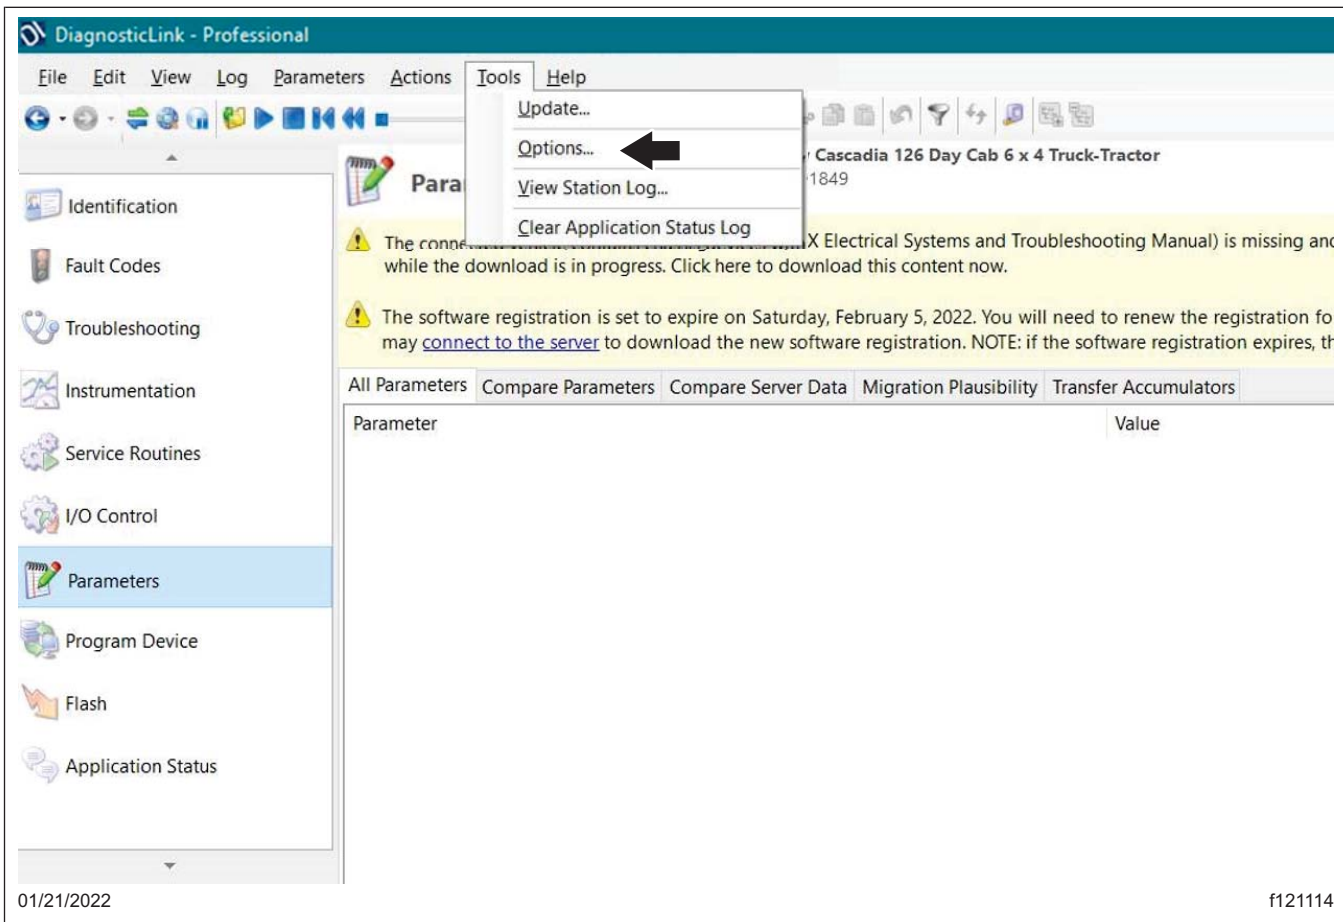

Fig. 2, Changing DiagnosticLink Units System, Step 1
3.2 In the DiagnosticLink top menu, select 'Tools,' 'Options.' See **Fig. 2**.